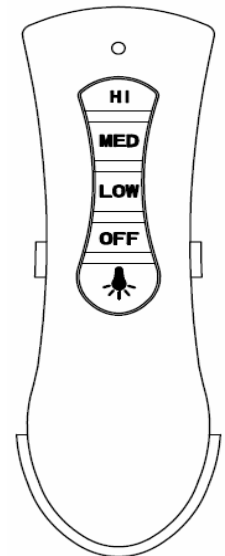

Fig. 15b
3. Slide the remote into the holder. (Fig. 15b).